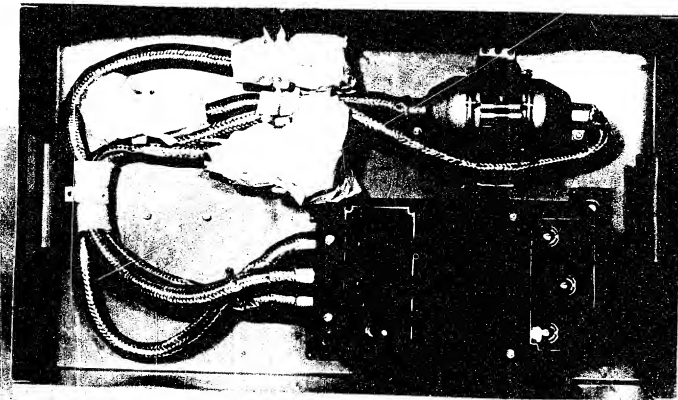
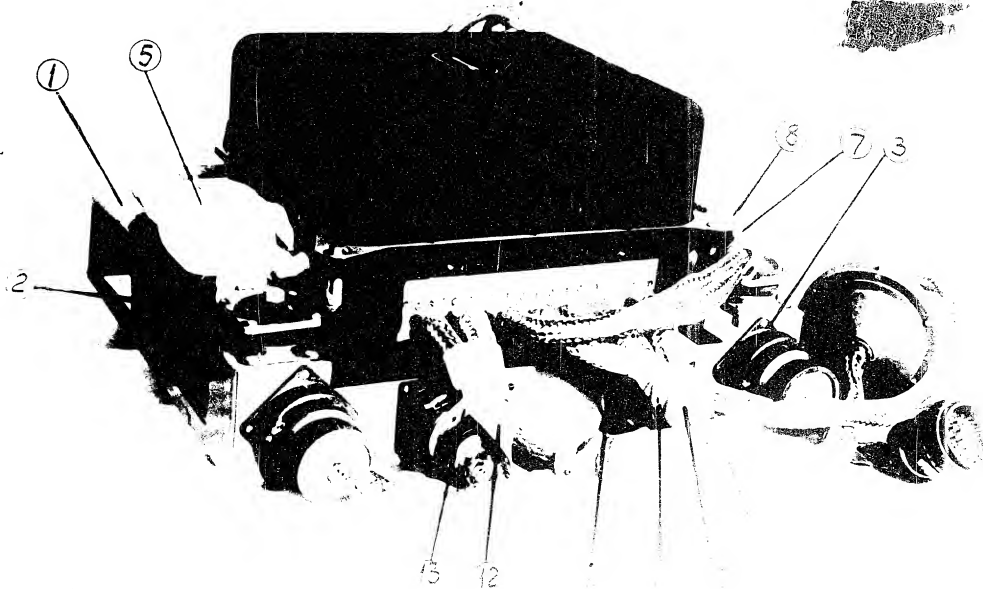

Fig.2. H-I Control Panel-to-Mounting
Fig. 3. H-2 Cyro Unit-to-Mounting Attachment
Install the II-1 control panel on the shock mounts (2) of the mounting (1, Fig. 2) and secure it by 4 screws with nuts. Pack the cables plug connectors with two sheets of oil paper (FOOT 1760-51) and herringbone tape and bind the tape with linen threads.
Install the II-2 gyro unit on the shock mounts (2) of the mounting (1, Fig. 3) and secure by 3 bolts. Attach the II-2 gyro unit plug connectors No. 31, 39, 42 (manufactured specially for the II-2 gyro units) 43, 45 and 47 to the flanges (3) using their coupling nuts. Fasten plug connector No. 35 to the flange (4) by a coupling nut.
Secure cables No. 31, 35 and 44 by the tape with the button (9), cover them with the split chlorvinyl tube (10) and fasten them to plug connector No. 35 by the tape with the button (11). Cover cables No. 45 and 47 with the split chlorvinyl tube (12) and fasten them to plug connector No. 45 by the tape with the button (12, Fig. 3).
Prior to installation, place in each mounting bag (5, Fig.2 and 3) with "FOCI" silica gel dehydrator, 100 gr. (FOCI 3956-47) and in the E-2 case with mounting bag (6, Fig.3) with blue silica gel indicator, 100 gr.
3. If a cartridge with silica gel - indicator is placed in the case, the bag (5) with silica gel indicator should not be put in the case.
4. When packing the E-2 case (manufactured with plug No.42) which is incorporated in the autopilot set installed in the E-2 missile, place in the case the bag for the above mentioned plug attached the plug with the clamp (6, Fig.2).